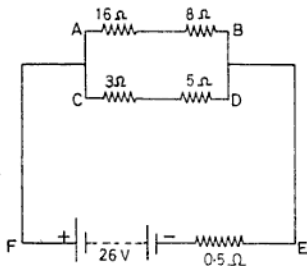

Fig. NE 9.24
- 9.24 A battery of emf 26 V and internal resistance 0.5Ω supplies current to the network shown in Fig NE 9.24. Calculate the current in each branch and the total current supplied by the battery. (Ans. Upper branch 1 A